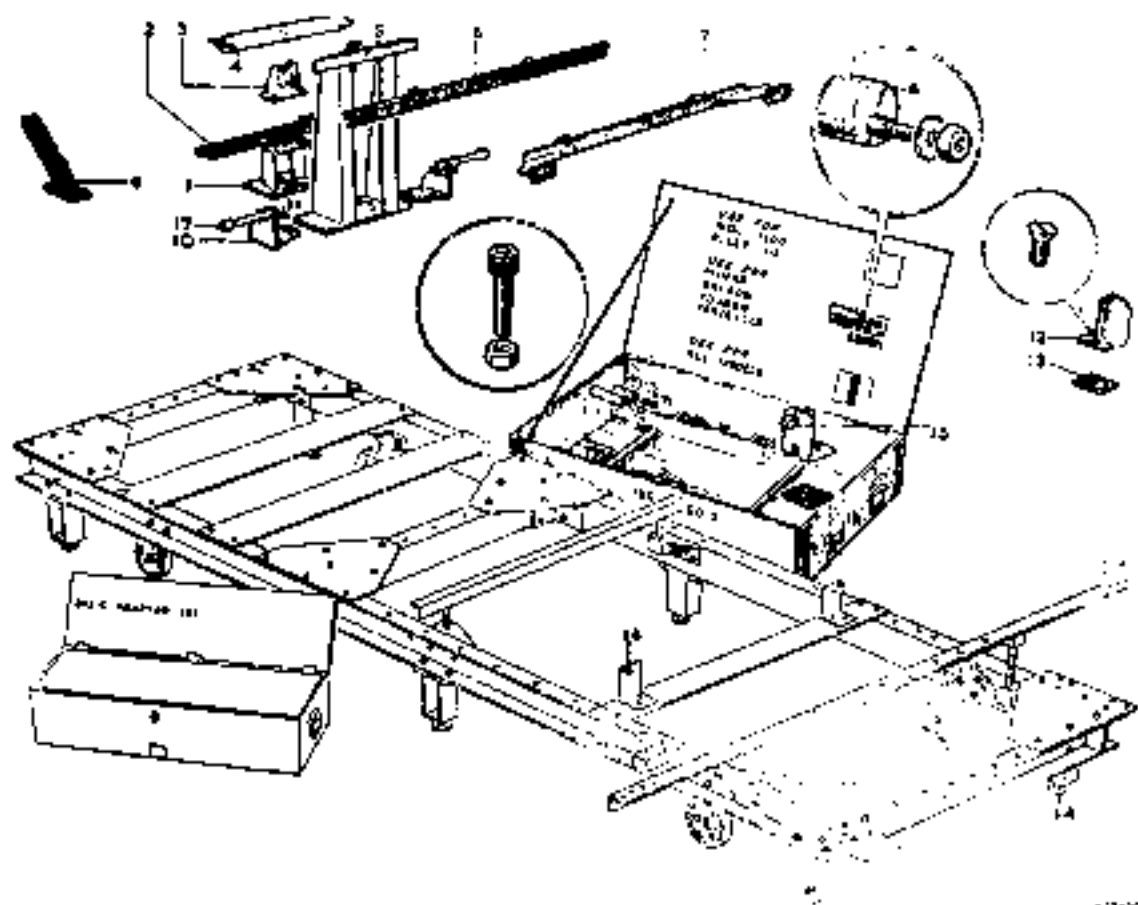

Fig. R.51
- (6) Remove the two rear body support pads (7) from the rear jacking bar for this model.
**NOTE.**—Item numbers quoted in instructions (7) to (10) refer to Fig. R.51.
- (7) From adaptor set 18G 560 D take the items painted green and yellow/green. Attach the support bracket (1) for the front engine mounting checking plate to the centre of plate 1.
Remove the front shackle checking bracket (12, Fig. R.51) from the jig, attach a rear road spring (unused, if possible) to the front shackle in the normal manner, and lift the rear end into position near to the rear shackle attachment bracket. If there is no excessive looseness in the front shackle, the rear eye of the spring and the rear shackle attachment bracket should be in line.